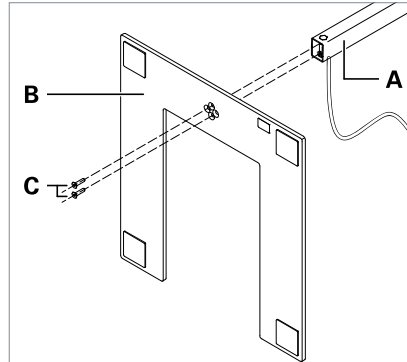

Fig. 1: Mounting the rectangle column.
- Rectangle column, see Fig. 1
- ▶ If you mount a **rectangle column**: Mount column **A** using the enclosed screws **C** on the base of luminaire **B** in such a way that the connecting cable faces forwards, see Fig. 1.